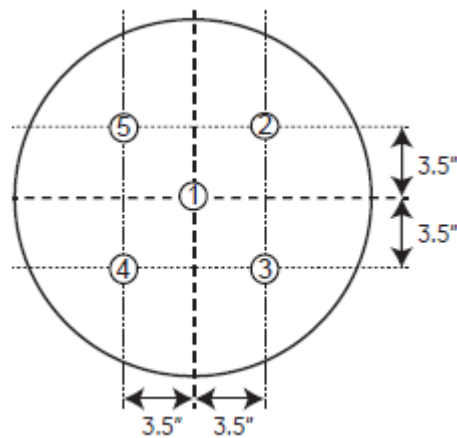

Figure 2-1 Light Measurement Points
5. Using a calibrated Biliblanket Light Meter II, measure the light at the 5 points indicated in Figure 2-1 and calculate their average. Confirm that the average is at least $27 \mu\text{W}/\text{cm}^2/\text{nm}$.